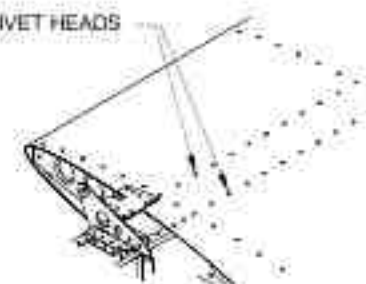

FIGURE 3: LEVEL RIVET LOCATIONS
Step 5: Check stabilator travel. Place a digital level or smart phone with a level application onto the top of the two rivets indicated in Figure 3.